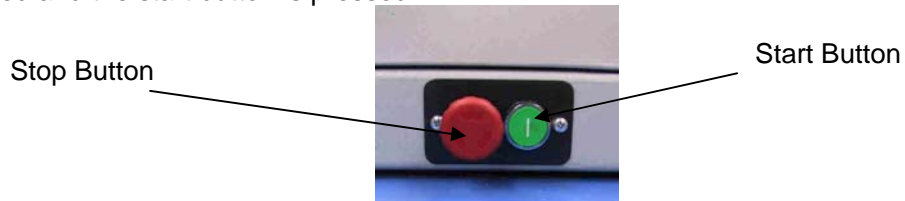

Fig 1: Push Button Controls
- A No-Volt Overload Push Button Starter (fig. 1), which will stop the machine if the motor becomes overloaded or if there is a power failure. The machine will NOT restart until the Stop Button is released and the start button is pressed.
- To start the machine, depress the green **Start** button (fig 1) on the right-hand side of the push button station. If the machine has an integral dust extractor, this will automatically start at the same time.